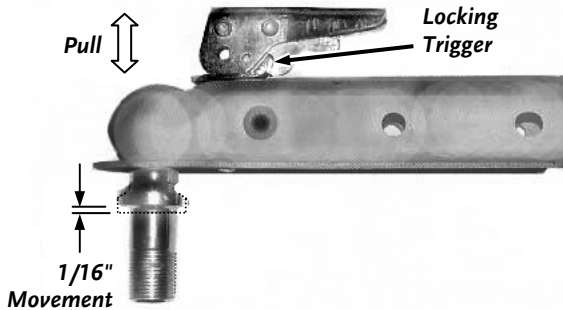

Figure 51
1. Place the proper size ball in the socket of the coupler and close the latch assembly (Figure 51). Verify that the locking trigger is properly engaged in its detent.